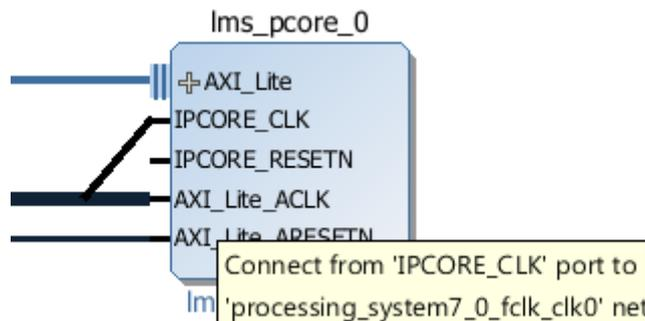

Figure 5.11: Manually connecting the LMS IP CLK
- (p) Hover the mouse pointer over the **IPCORE_CLK** interface on the **lms_pcore_0** block until the cursor changes to a pencil. Click and drag the mouse pointer until it is hovering over the wire that connects to the **AXI_Lite_ACLK** interface and the wire is highlighted, as shown in Figure 5.11, and release the mouse button to create the connection.